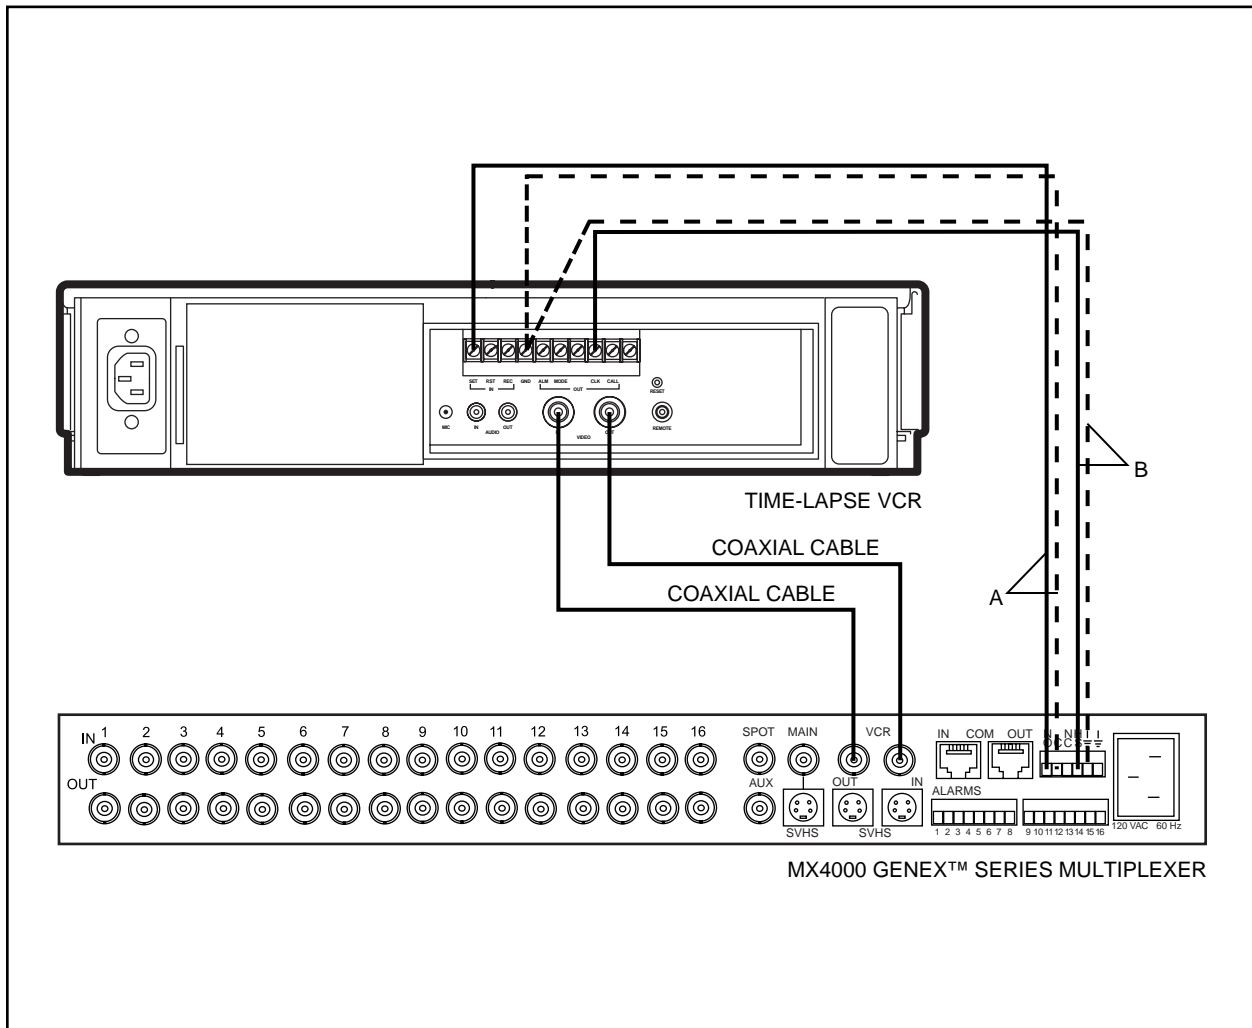

Figure 2. Connecting VCR To Multiplexer
Figure 2 shows how to connect the VCR to an MX4000 Series Genex™ Multiplexer.
- **For Automatic Speed Tracking** ("B" lines in Figure 2)
1. Connect the VCR's CLK output to the multiplexer's head switching (HS) input to synchronize camera switching.
- **For Alarm Recording** ("A" lines in Figure 2)
NOTE: Cameras and monitors are connected to the multiplexer. Figure 2 shows the connection between the VCR and an MX4000 Series Genex™ Multiplexer. Refer to the multiplexer manual for additional component connections.